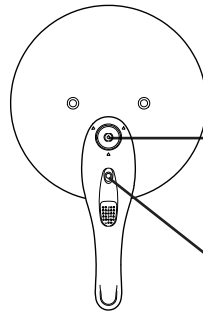

Fig 6
8. Once all the steam has escaped and the valve rod has been released, the rod plate should be pushed to the end by hand. Open the cover in a counter clockwise direction. If the indicating valve has not dropped it means that there is still some pressure inside the cooker, and to ensure your safety, the cover cannot be opened. Do not try to force it open, turn the pressure limiting valve hook to the position between two triangle marks slowly, let the steam escape completely. If the indicating valve is still not dropped just press the indicating valve downwards with a needle or cocktail stick, let the remaining steam escape completely and then open the cover as in Fig 6 and 7.